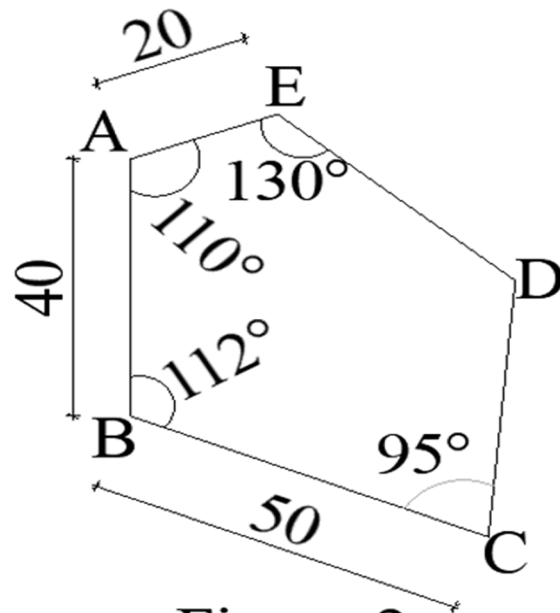

Figure 2
- a. Figure 2 shows a pentagon ABCDE in which AB= 40 mm, BC = 50mm, angle at B = 112° , AE =20mm, angle at C= 95° , angle at E = 130° . Construct a pentagon BGHJK similar to and of twice the area of pentagon ABCDE. (10 Marks)